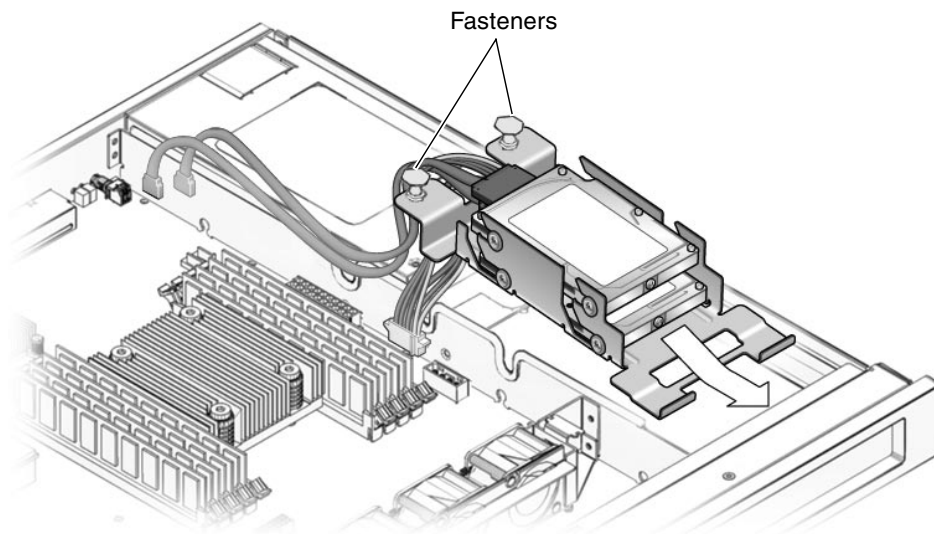

FIGURE 5-8 Installing the Drive Assembly
FIGURE 5-8 shows a dual-drive assembly being inserted into the chassis. The process is the same for a single-drive assembly.
6. Push the fasteners down to lock the drive assembly into place in the chassis (FIGURE 5-8).